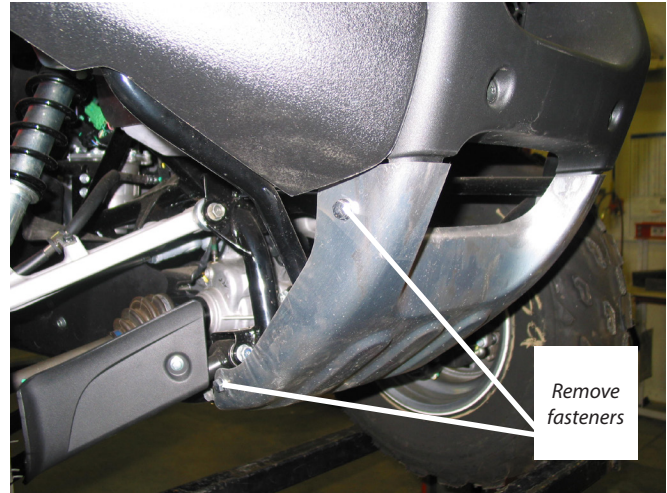

Figure 1
1. Remove the front aluminum skid plate on the vehicle, as shown in Figure 1. Save the fasteners as they will be used later to reattach the skid plate.
1. Remove the front aluminum skid plate on the vehicle, as shown in Figure 1 of previous section. Save the fasteners as they will be used later to reattach the skid plate. Figure 9b shows the vehicle frame where the plow mount assembly will be mounted.